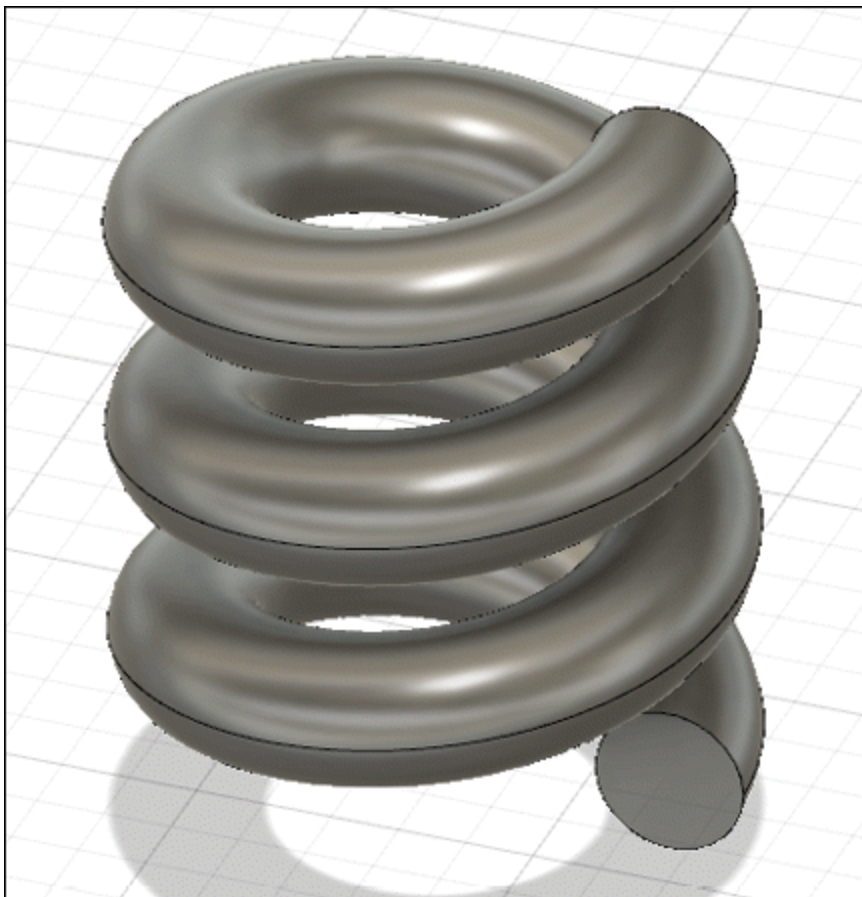

Figure-80. Coil created
- Click **OK** button of **COIL** dialog box to finish the process of creating a coil; refer to Figure-80.